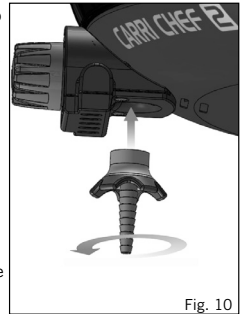

Fig. 10
- **NOTE!** When installing the tailpiece, ensure it is held straight while tightening the tailpiece nut, in order to prevent a possible gas leak. Tighten with a suitable spanner. (Fig. 10)
- I 3B/P (30), I 3B/P (37) and I 3+ (28-30/37) Appliance categories: Fit the valve tailpiece onto the valve by screwing it on in an anti-clockwise direction. Push an approved hose onto the valve tailpiece until it is properly seated. On the other end, attach a suitable low pressure regulator (I3B/P (30) : 30mbar Butane/Propane configurations regulator; I3+(28-30/37): 30mbar Butane regulator or 37mbar Propane regulator); I3B/P(37): 37mbar Butane/Propane configurations regulators). Again making sure that the hose is well seated. The type of hose used shall comply with the relevant EN standard and locate requirement. In South Africa the regulator used must comply with SANS 1537.
- I 3B/P (50) Appliance category: Screw a Hose with the correct threaded fittings on each end, onto the left hand ¼" BSP thread of the Valve. Attach a suitable 50mbar low-pressure regulator on the other end of the hose. The hose assembly used must comply with DIN 4815 part 2 or equivalent.